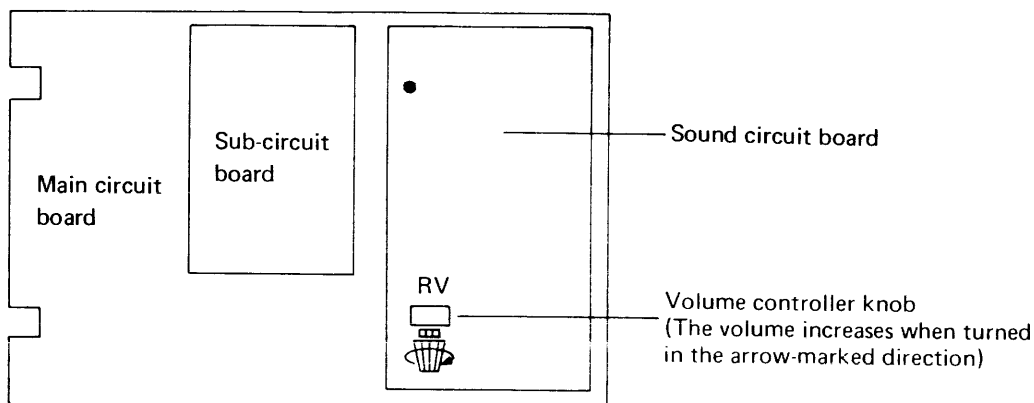

Fig. 2 Position of Volume Controller Knob
- 3) Adjust the volume control knob located on the sound circuit board. See Fig. 2. Turn the knob approximately 1/4 turn from the low volume position.